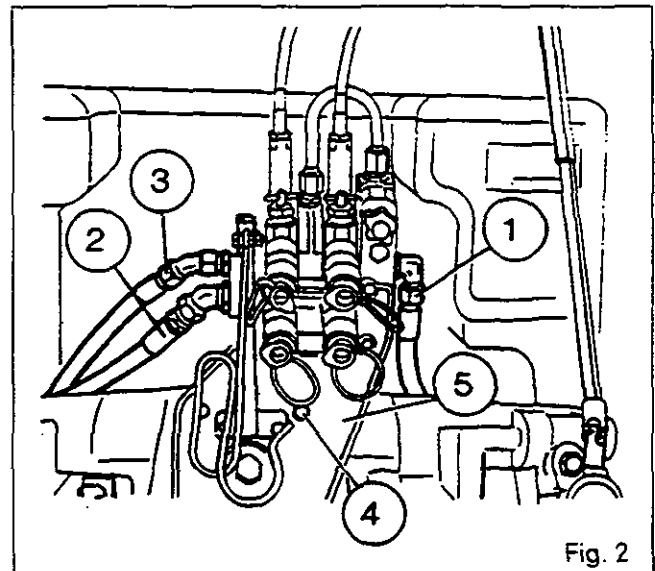

Fig. 2
4. Disconnect (Fig. 2):
- the supply hose (1) to the spool valve
- the supply hose (3) to the lift valve
- the return hose (2).
5. Remove the bolts (4) for the spool valve support (5) (Fig. 2).